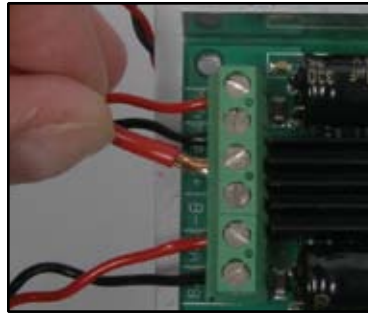

Figure F5
7) Insert the free end of the on/off switch into the controller where it is labeled B+ and tighten the screw (Figure F5).